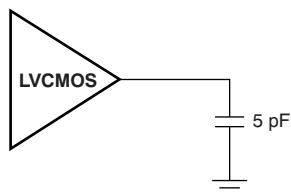
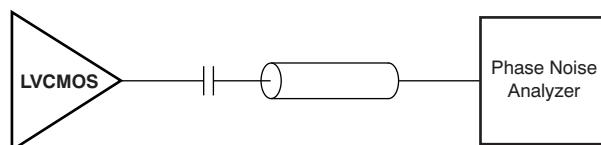
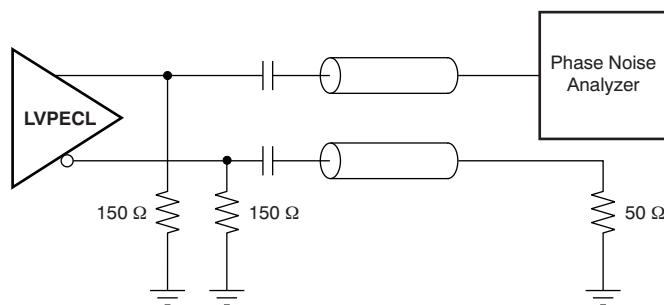

Figure 7. LVC MOS Output Loading During Device Test
Figure 8. LVC MOS AC Configuration During Device Test
Figure 10. LVPECL AC Configuration During Device Test
- (1) Figure 7 and Figure 8 show DC and AC test setups, respectively. Jitter measurements made using 25-MHz quartz crystal inches.
250-MHz LVCMOS OUTPUT(1) (See Figure 8)
625-MHz LVPECL OUTPUT(2) (See Figure 10)
(1) Figure 8 shows test setup and uses 25-MHz quartz crystal in,  $V_{CC} = 3.3$  V, and  $T_A = 25^\circ\text{C}$ .
(2) Figure 10 shows test setup and uses 25-MHz quartz crystal in,  $V_{CC} = 3.3$  V, and  $T_A = 25^\circ\text{C}$ .
(1) Figure 8, Figure 10, and Figure 12 show LVCMOS, LVPECL, and LVDS test setups (respectively) using appropriate quartz crystal in, VCC = 3.3 V, and TA = 25°C.
This section describes the function of each block for the CDCM61004. Figure 7 through Figure 13 illustrate how the device should be set up for a variety of output configurations.